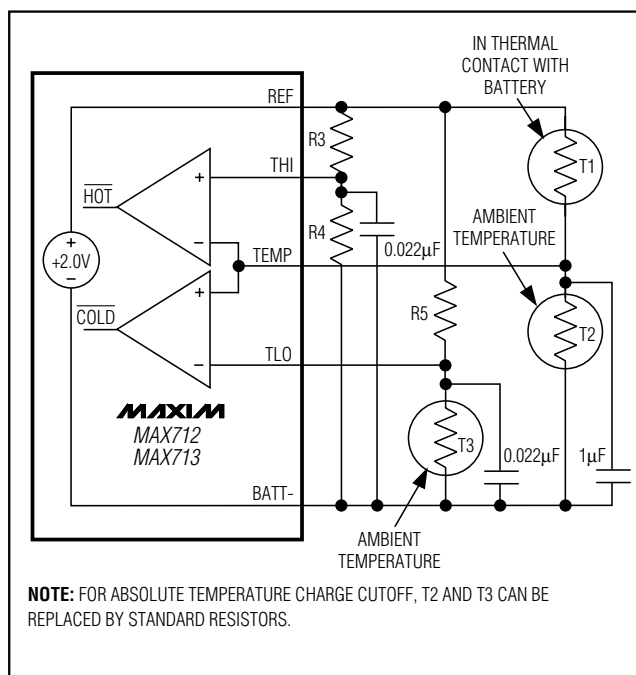
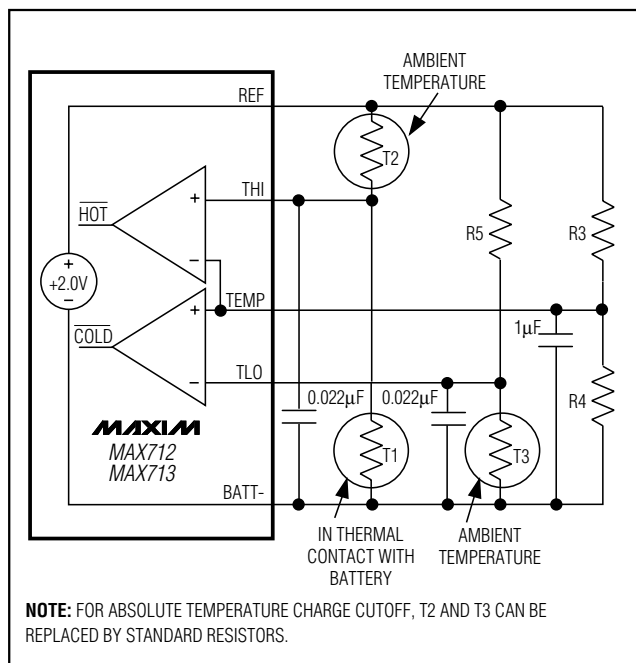
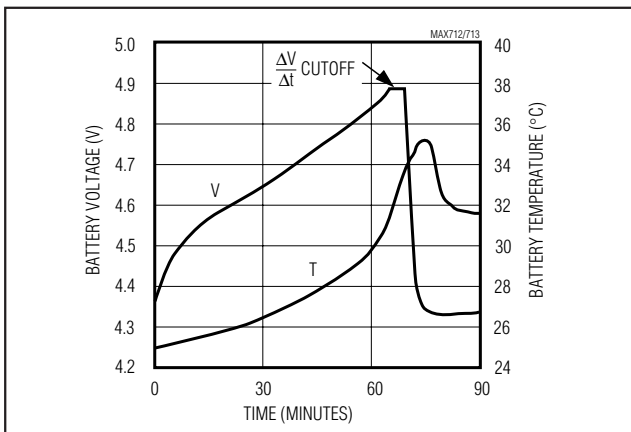

Figure 9a. Temperature Comparators
Figure 9b. Alternative Temperature Comparator Configuration
Figure 13. 3 NiMH Cells Charged with MAX712
Figure 9a shows how the MAX712/MAX713 detect over- and under-temperature battery conditions using negative temperature coefficient thermistors. Use the same model thermistor for T1 and T2 so that both have the same nominal resistance. The voltage at TEMP is 1V (referred to BATT-) when the battery is at ambient temperature.
terminal. In this case, use the configuration shown in Figure 9b. Thermistors T2 and T3 can be replaced by standard resistors if absolute temperature charge cut-off is acceptable. All resistance values in Figures 9a and 9b should be chosen in the 10kΩ to 500kΩ range.
Figures 13 and 14 show the results of charging 3 AA, 1000mAh, NiMH batteries from Gold Peak (part no. GP1000AAH, GP Batteries (619) 438-2202) at a 1A rate using the MAX712 and MAX713, respectively. The *Typical Operating Circuit* is used with Figure 9a's thermistor configuration.